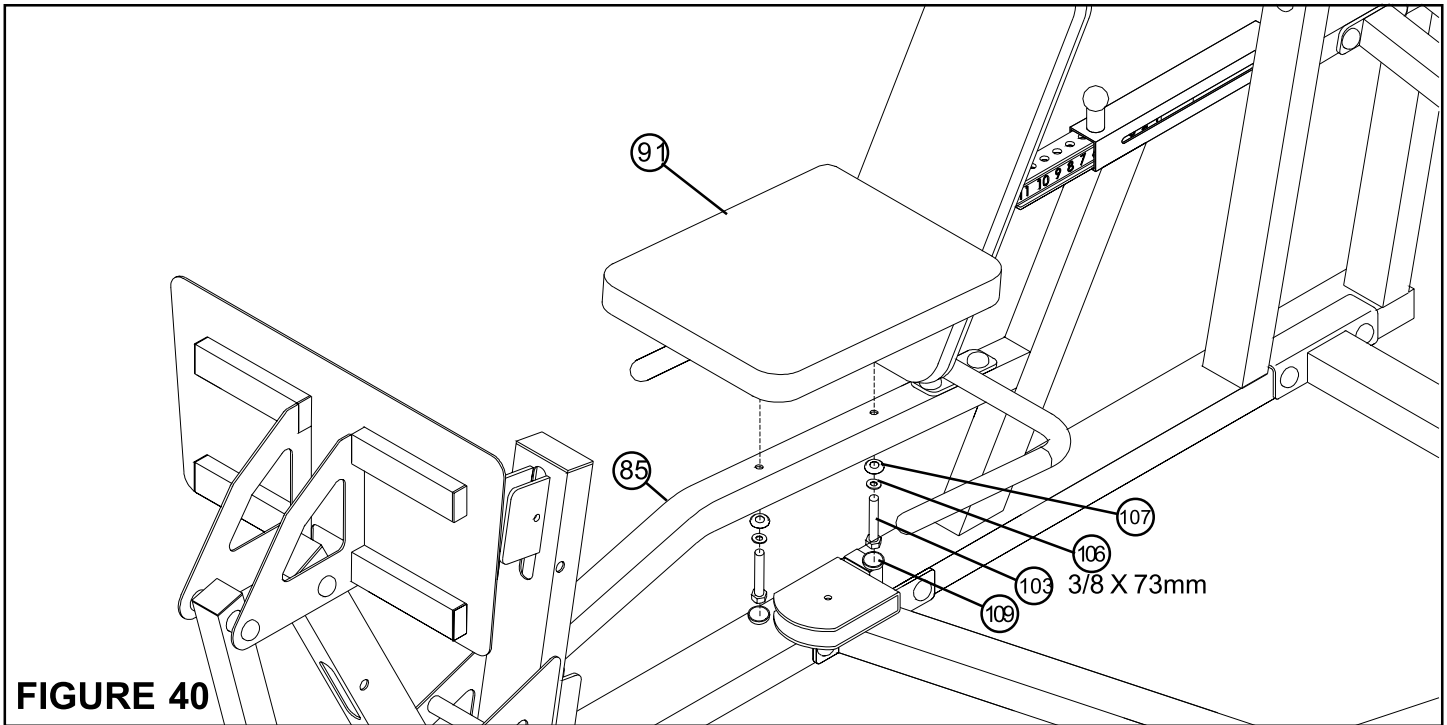

FIGURE 40
- **SECURELY** assemble the LEG PRESS SEAT PAD (91) to the LEG PRESS FRAME (85) using two RH CAPS (109), two 3/8 X 73mm BOLT (103), two 3/8 SAE WASHERS (106) and two 3/8 RH WASHERS (107) as shown in FIGURE 40.